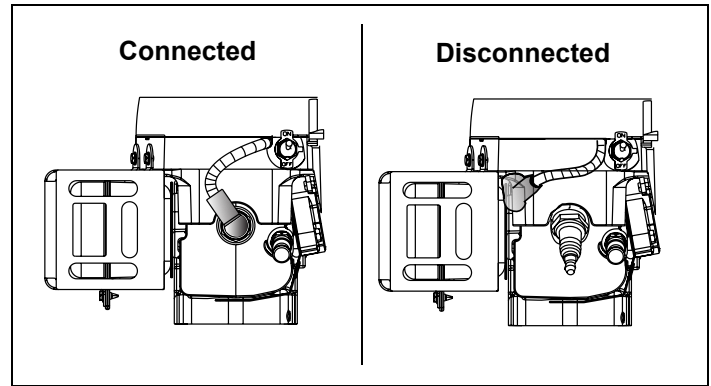

Figure 22. Disconnecting/Connecting Spark Plug
1. Disconnect spark plug wire and keep it away from spark plug. See Figure 22.